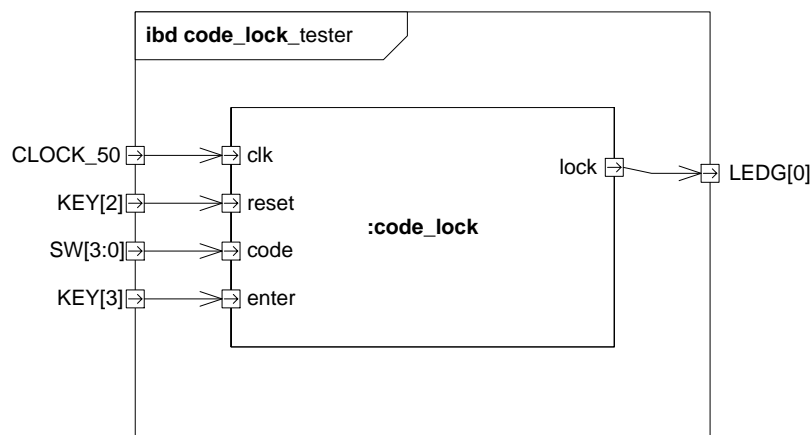

FIGURE 3 CODE LOCK TESTER IBD
- 1) Start out by implementing the simple version of code lock described in Figure 4 using the interface described in Figure 3. Use the three-process template to implement the state register, next state- and output process for the code lock.